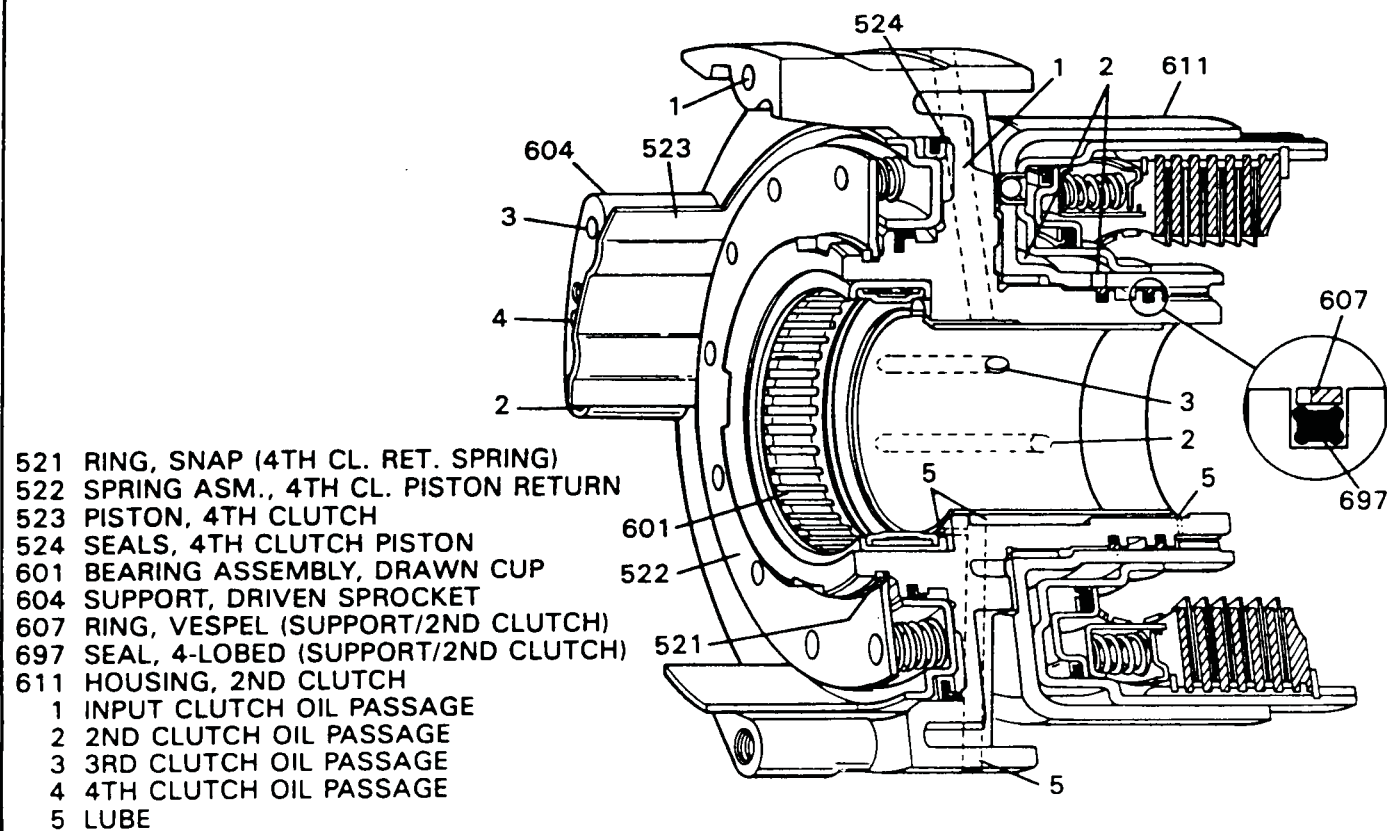

Figure 36
Change: "Vespel" Sealing Rings and 4 Lobe Ring (See Figure 36).
This change, also initiated in the 1987 models, related to 2nd clutch durability and was on the driven sprocket support. The 84-86 models have large steel, hook joint, sealing rings to feed the 2nd clutch. In 1987 models the steel rings were replaced with "Vespel" (Plastic), step joint, sealing rings, that have tabs on them to prevent them from spinning in the driven sprocket support (See Figure 37). This made it necessary to machine slots in the driven sprocket support, to accept the tabs on the "Vespel" rings. There is also a special 4 lobe ring that goes in the ring groove under the "Vespel" ring, and acts as an expander for the "Vespel" sealing rings (See Figure 36).
- 2) No. (697) 4 lobe ring acts as expander for (607) "Vespel" sealing ring (See Inset, Figure 36).